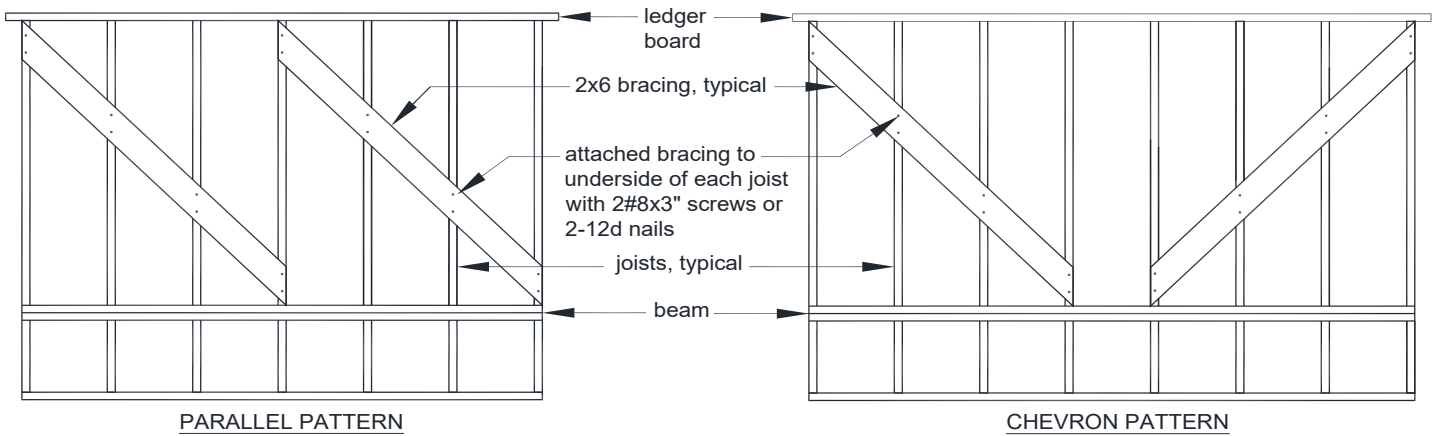

FIGURE 2: UNDERSIDE HORIZONTAL BRACING
- Place bracing in a parallel pattern or in a chevron pattern per FIGURE 2.
- Attach bracing to each intersecting joist in accordance with FIGURE 2.
- As shown in FIGURE 2, bracing shall not attach to the same joist at the point of the chevron.